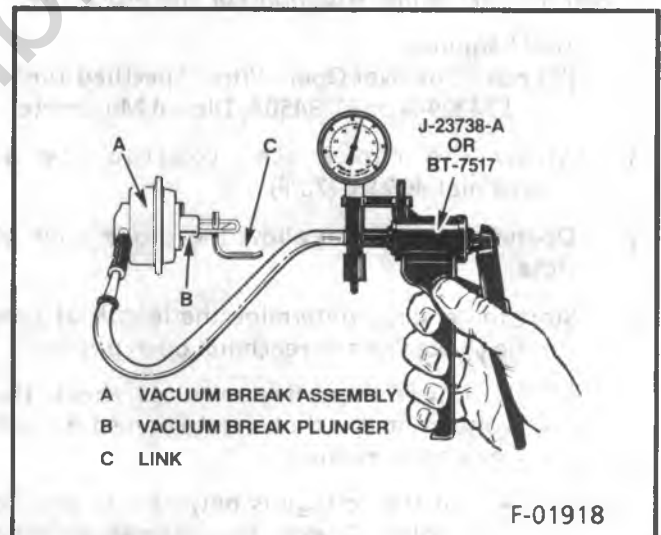

Figure 34 – Vacuum Break Functional Check
Vacuum Break Functional Check (Figure 34) (Vacuum break adjustment is covered later in this section.)
1. Apply 51 kPa (15" Hg) vacuum to the vacuum break (Figure 34).